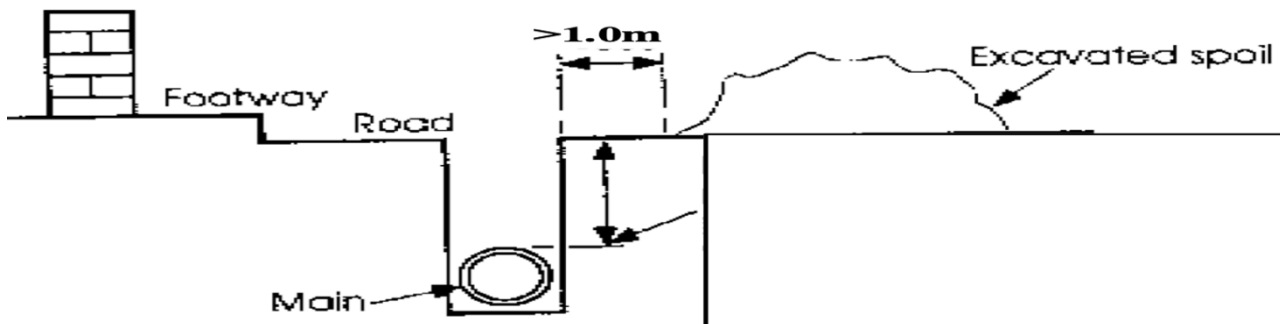

Figure 1 – Typical trench layout
34. Excavated materials should be promptly removed from site or, where it is intended to reuse them, stacked tidily and at a safe distance from the edge of the trench (See Figure 1).